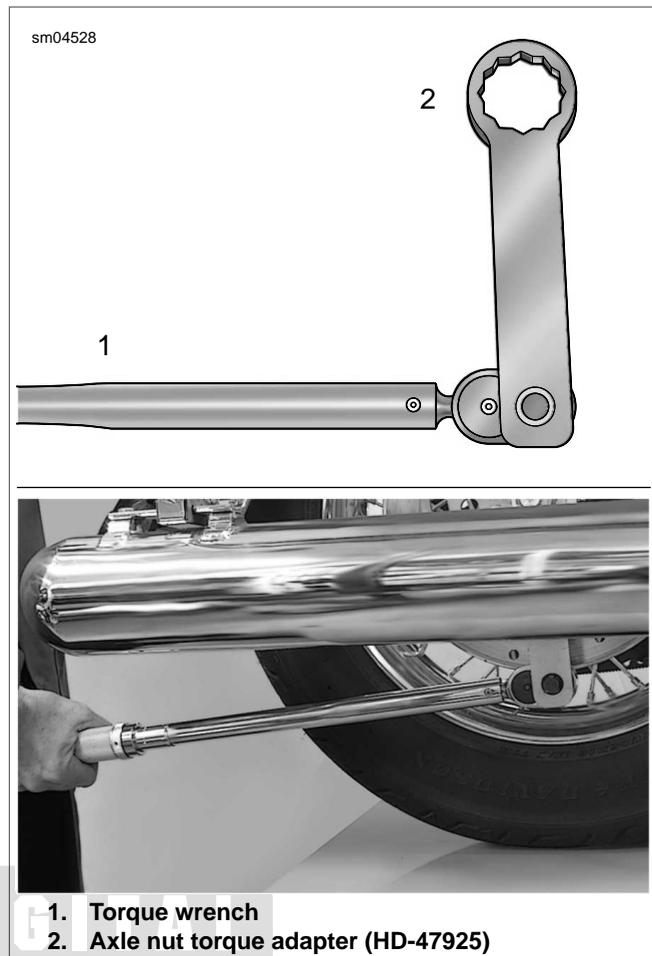

Figure 1-22. Install Tool Perpendicular to Torque Wrench
- a. Install torque adapter perpendicular to torque wrench. See upper frame of Figure 1-22.
- b. Insert tool up between rear wheel and muffler to capture cone nut. For best clearance with muffler, be sure torque adapter is on the outboard side. See lower frame of Figure 1-22.